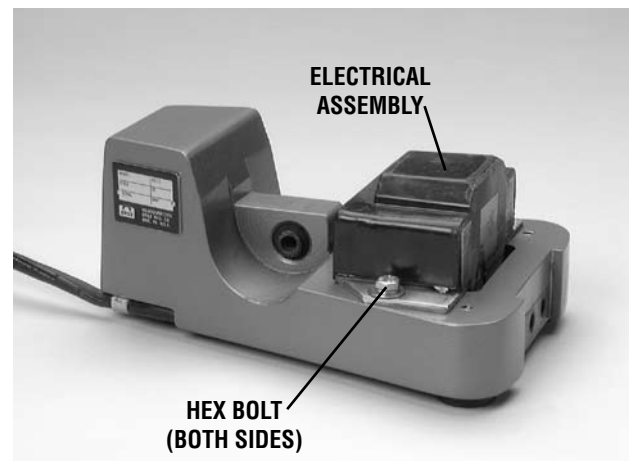

FIGURE 9
2. Lift out the electrical assembly (see Figure 9) and replace it with a new assembly.